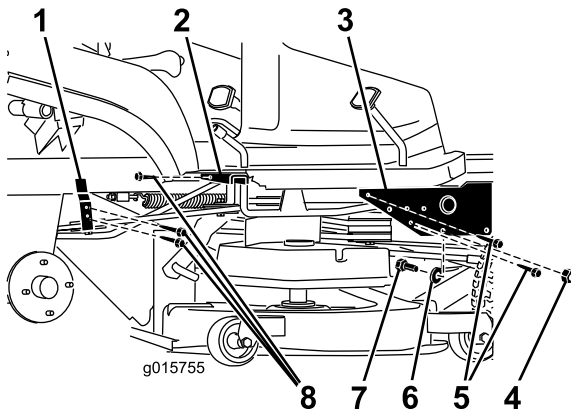

Figure 7
1. On the right side of the machine, drill holes in the pulley bracket, in the rear footrest support and in the front section of the frame (Figure 7).